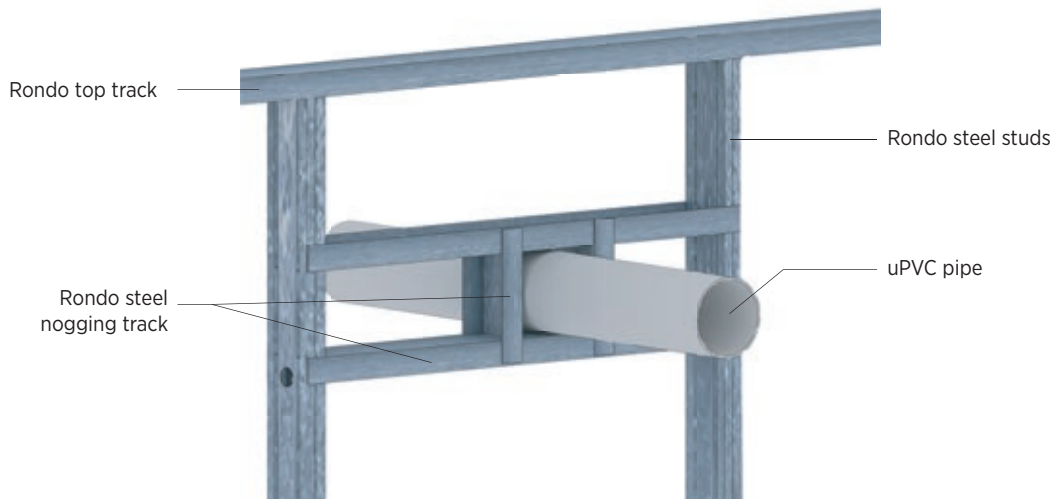

Figure 59: **Penetration Detail – Framing Support Construction**
2. Install Rondo nogging track around the pipe penetration and screw back to the steel framing as shown in Fig. 59.